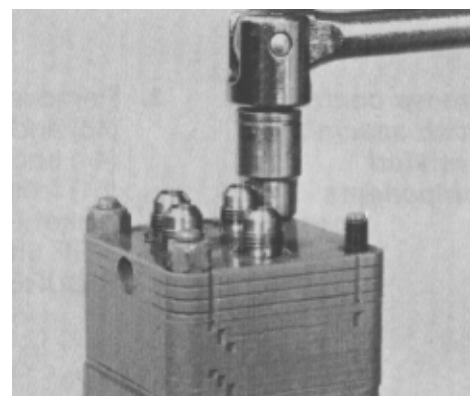

Figure 46
3. Remove the four nuts from the port cover assembly. Be careful not to damage the ports (Fig. 46).